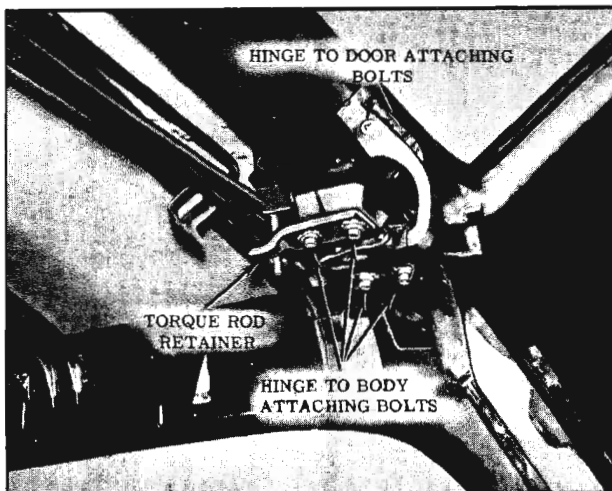

Fig. 16-282 Back Door Hinge
2. With aid of helper to hold back door, remove hinge-to-back door attaching bolts. (Fig. 16-282)
- b. Mark position of torque rod retainers (Fig. 16-282) at both right and left hinges to
3. Mark position of both right and left torque rod retainers to facilitate installation in the same fore and aft position. Remove retainer front attaching bolt. (Fig. 16-282)